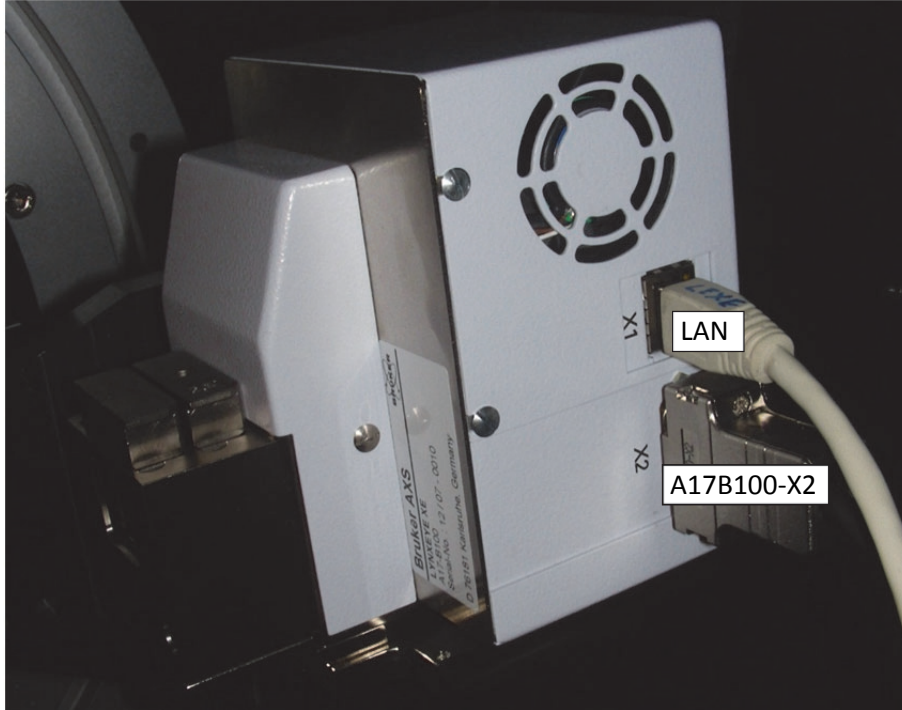

Figure 4.6: LYNXEYE XE in 90° position showing LAN and power plug
1. Connect Detector Power cable to detector (Figure 4.6), to D8 control rack and to the distribution board.
2. Connect Detector Data cable to detector (Figure 4.6) and to LAN switch close to the D8 controller.